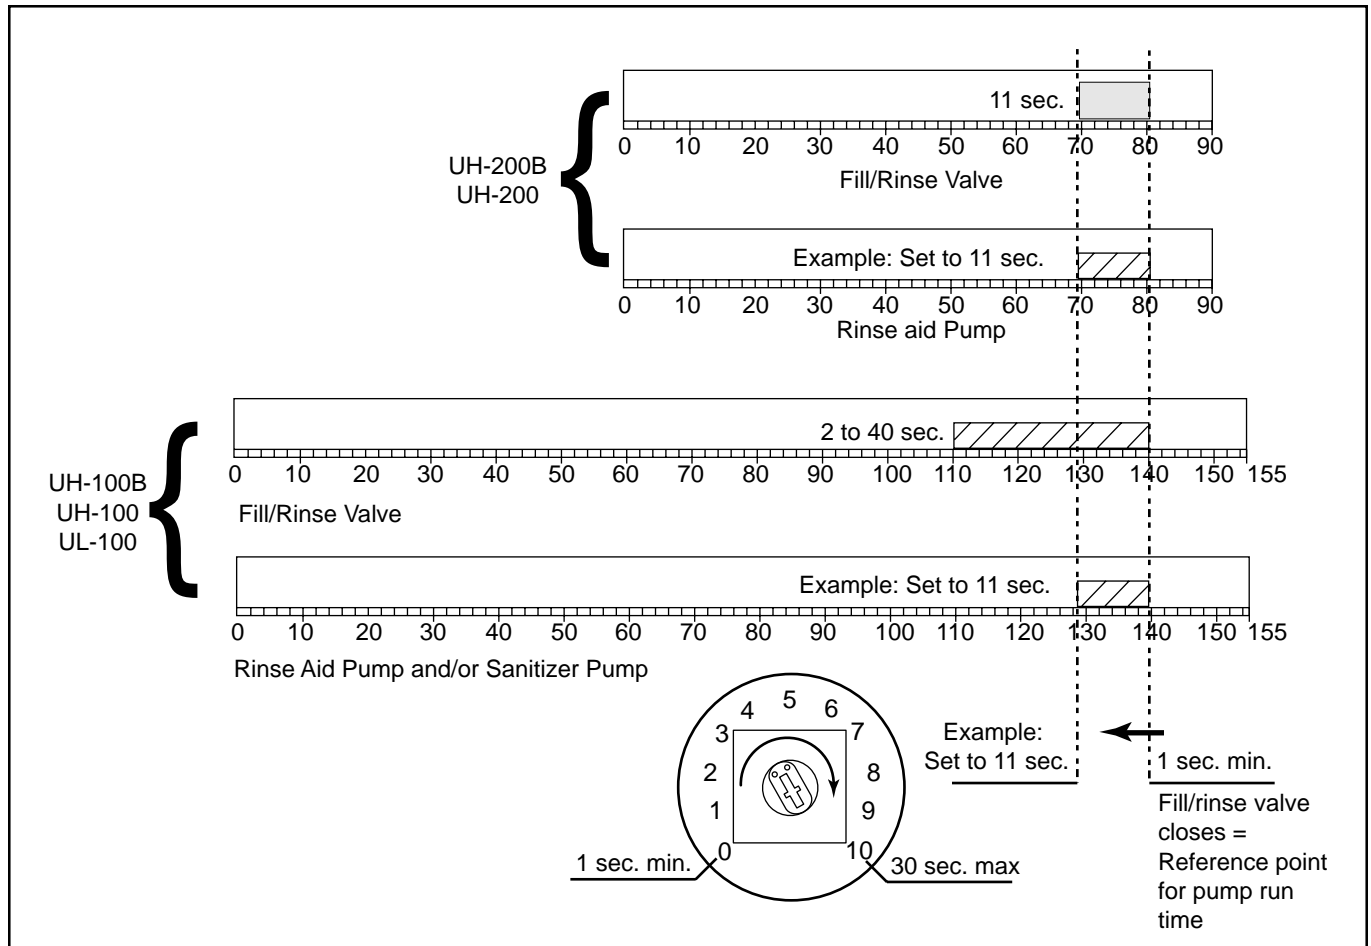

Figure 7.3.4
Refer to Fig. 7.3.4, next page.
- **For UH-100B, UH-100, and UL-100:** The time the fill/rinse valve is open varies!! Fig. 7.3.4 shows fill/rinse valve time set to the maximum of 40 secs. In reality, most machines will keep the factory setting of 25 seconds, but every installation can be different depending on supply pressure variations. Therefore, the timing chart is a guide. Fig. 7.3.4 shows the fill POT time set for 40 seconds. Consequently, the fill valve opens at 110 seconds and closes at 140 secs into the total cycle. In this example, with the Dispensing POT set at maximum, the pump would start at 129 seconds into the cycle and shutoff at 140 seconds. The cycle times would be different if the fill POT were set for 25 seconds. **Models UH-200B, UH-200** also may have variations in fill time because the water level probe controls initial fill time. But, the time that the fill/rinse valve is open during the final rinse portion of the automatic cycle is fixed at 11 seconds.